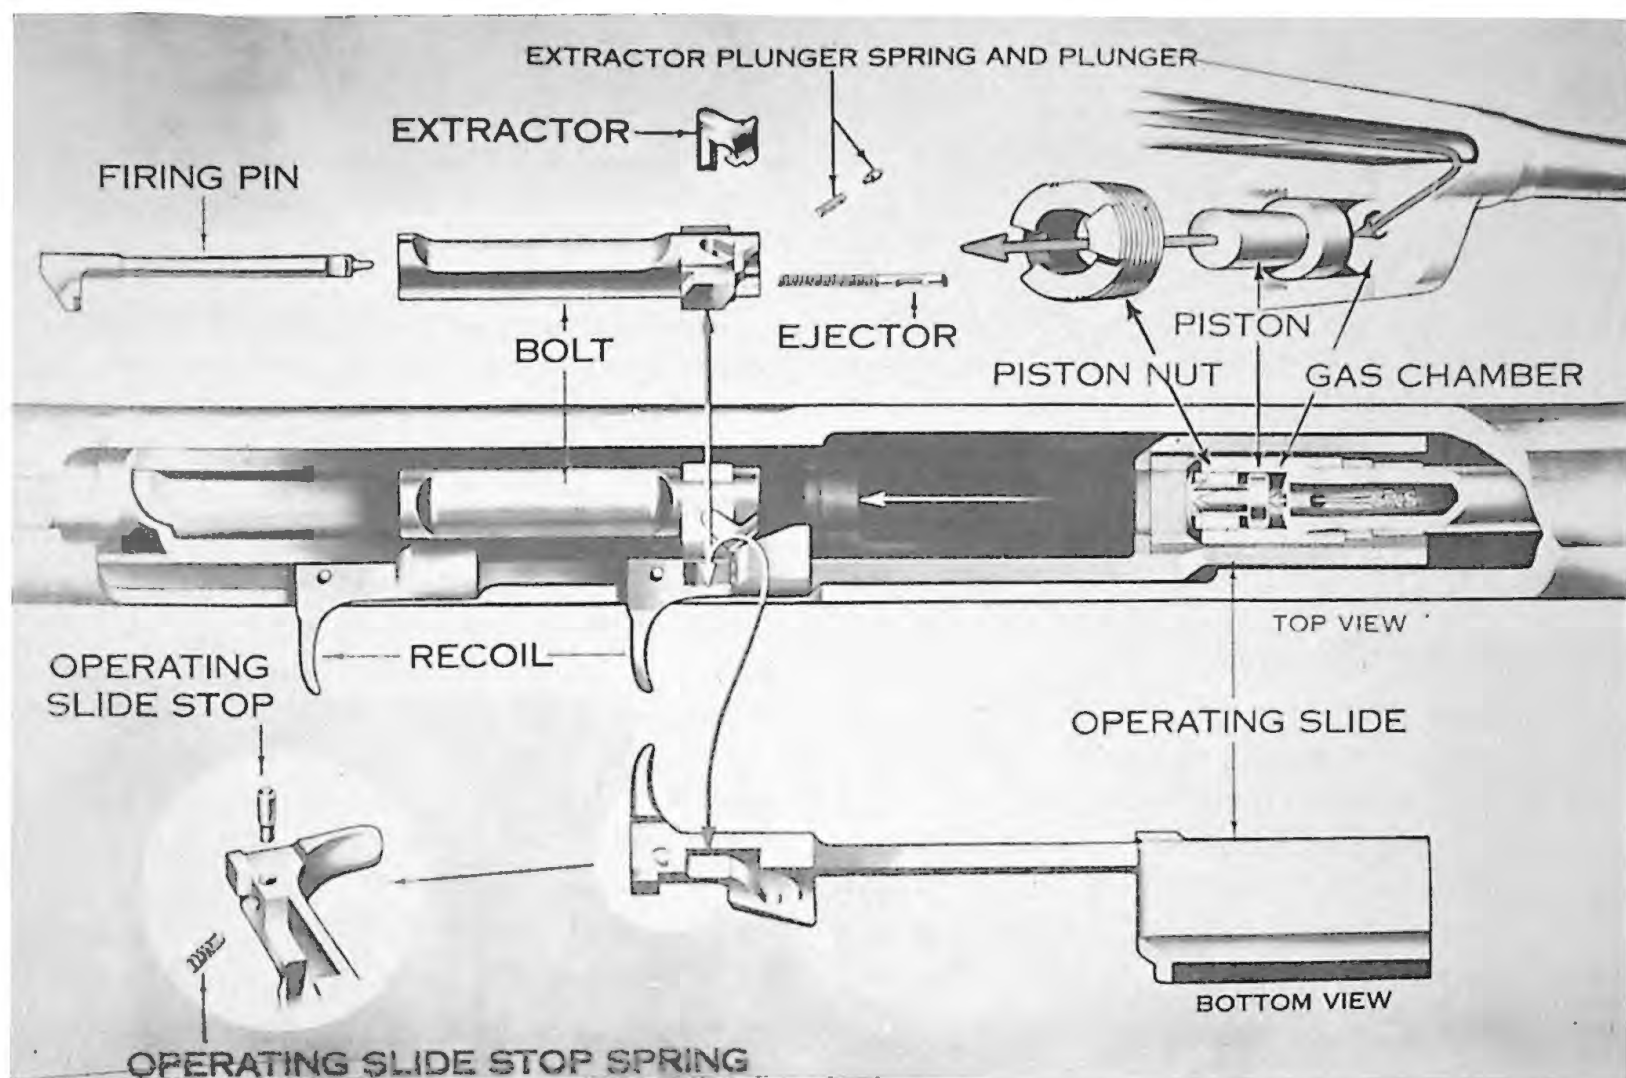

FIG. 9. Bolt and operating slide assemblies, U.S. carbine, caliber .30, M1.
(8) Bolt. Hold the rearmost portion of the barrel in the palm of the left hand, muzzle to the front, sights up. Grasp the operating lug of the bolt with the right thumb and forefinger. Slide the bolt forward until its face is just in the rear of the locking recesses. Rotate the bolt until the operating lug is straight up, disengaging the left locking lug. Rotate the bolt to the right until it is level, and raise it to an angle of about 45 degrees. Draw the bolt forward and remove it. (See fig. 9.)